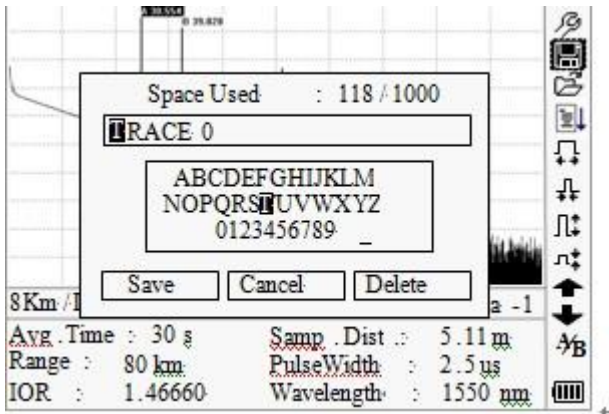

Figure 4-5. Save Trace
- Under GUI of Figure 4-4., use [**▲**] and [**▼**] to highlight , and then press [**Enter**] to enter, as shown in Figure 4-5.